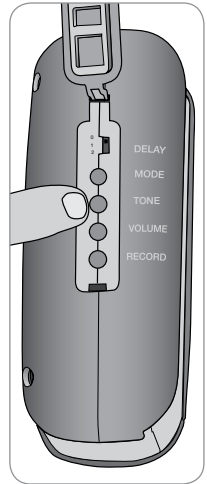

Fig. 8
4. Press TONE button on left side of alarm to scroll through the tone selections (Fig. 8).
5. Each time you press the button, tone will change and a two (2) second sample plays. The last sample heard is the tone utilized for the alarm when the sensor is activated or the magnet is removed from the face plate, depending on which monitoring mode is selected.